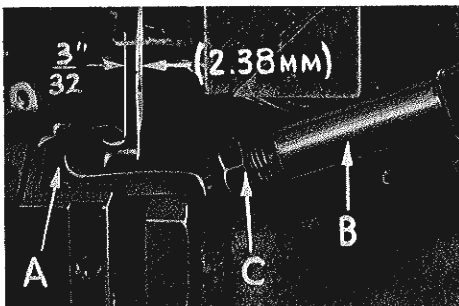
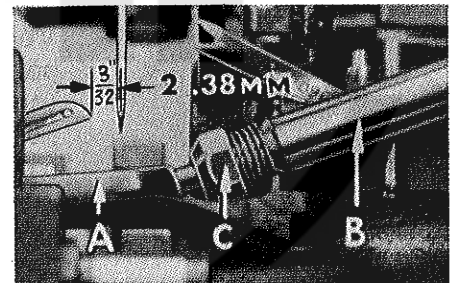

Fig. 6A
Fig. 6
At this point, insert lower looper (A, Fig. 6) on Styles 39500 QG, SD and TC or lower spreader (A, Fig. 6A) on Style 39500 RN into bar (B). With lower looper or spreader at left end of its stroke, set looper or spreader point $\frac{3}{32}$ inch (2.38 mm) from centerline of needle (Fig. 6 or 6A) using looper gauge No. 21225-3/32. Do not have lower looper or spreader deflecting needle. Tighten nut (C). Now assemble differential (front) feed dog.